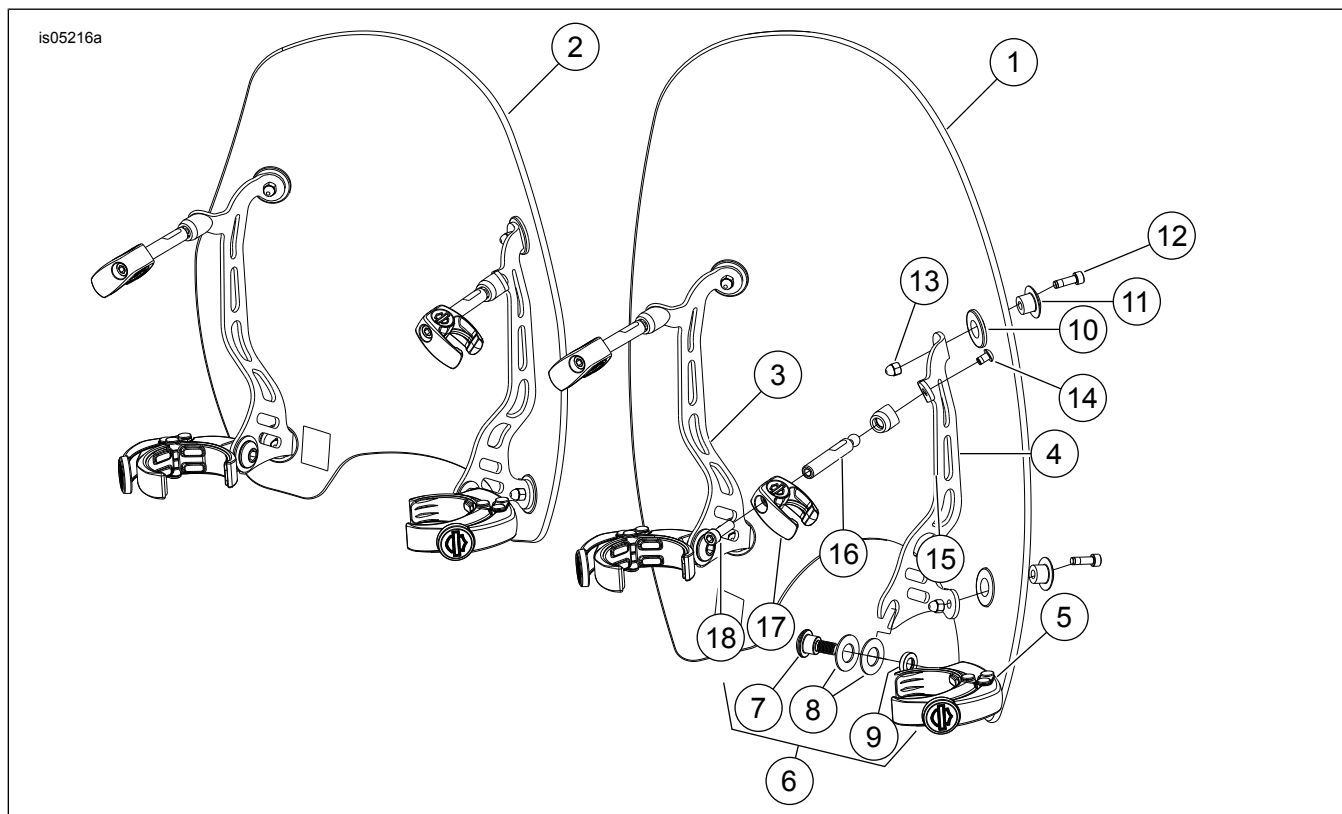

Figure 1. Service Parts: Windshield for XR1200
See Figure 1 and Table 1.
2. See Figure 1 and Table 1. Unpack hardware kit (6) and assemble the two hardware stacks, shoulder bolt (7), two Belleville washers (8) and cup washer spacer (9). The Belleville washer cupped sides must face each other.